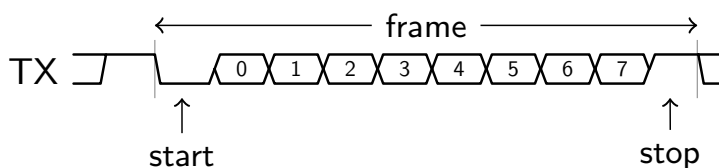

Figure 10.2: Transmission of a byte
register that loads data in parallel and then shifts it out bit by bit at a specific rate. The receiver, on the other hand, shifts in data bit by bit and reassembles the data. One of the basic encodings used for asynchronous serial communications is illustrated in Fig. 10.2. Every character is transmitted in a frame which begins with a (low) start bit followed by eight data bits and ends with a (high) stop bit. The data bits are encoded as high or low signals for (1) and (0), respectively. Between frames, an idle condition is signaled by transmitting a continuous high signal. Thus, every frame is guaranteed to begin with a high-low transition and to contain at least one low-high transition. Alternatives to this basic frame structure include different numbers of data bits (e.g. 9), a parity bit following the last data bit to enable error detection, and longer stop conditions. Fig. 10.2